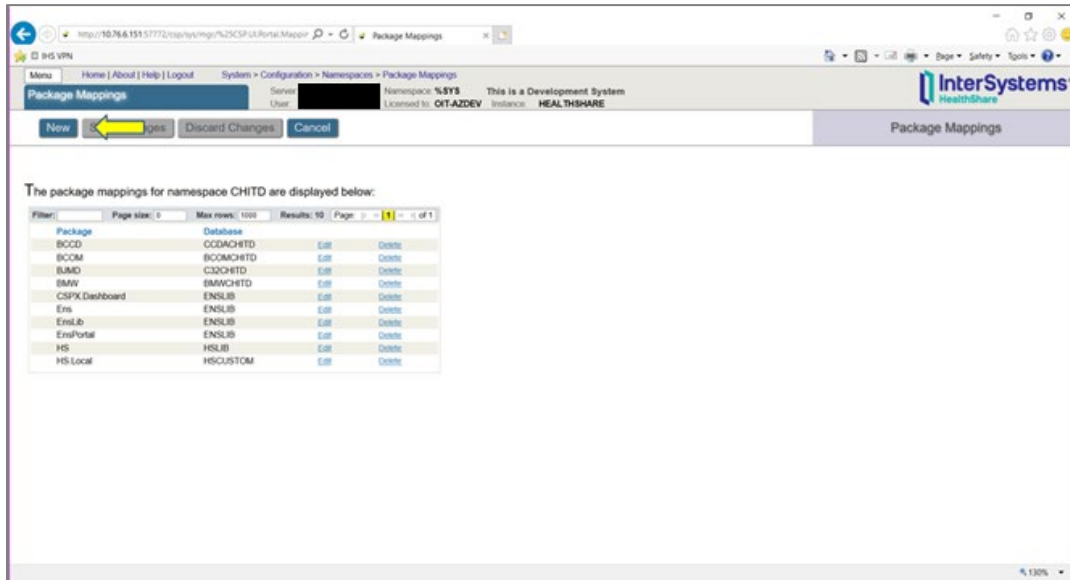

Figure 4-5: Creating a new package mapping on the Package Mappings page
2. On the **Package Mappings** page, click **New** to display the **Package Mapping** dialog box, as shown in Figure 4-5.